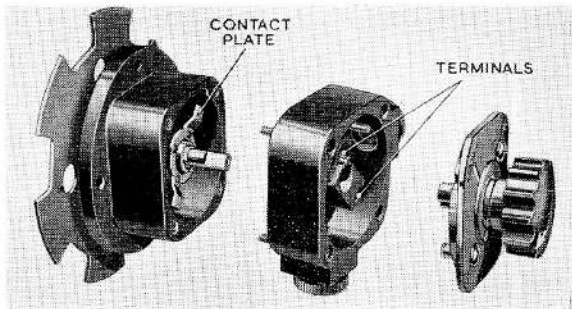

Fig. 3. Exploded view of mooring light switch
6. As can be seen in fig. 3, the spindle of the control knob is forked to engage with the spindle carrying the contact plate. The